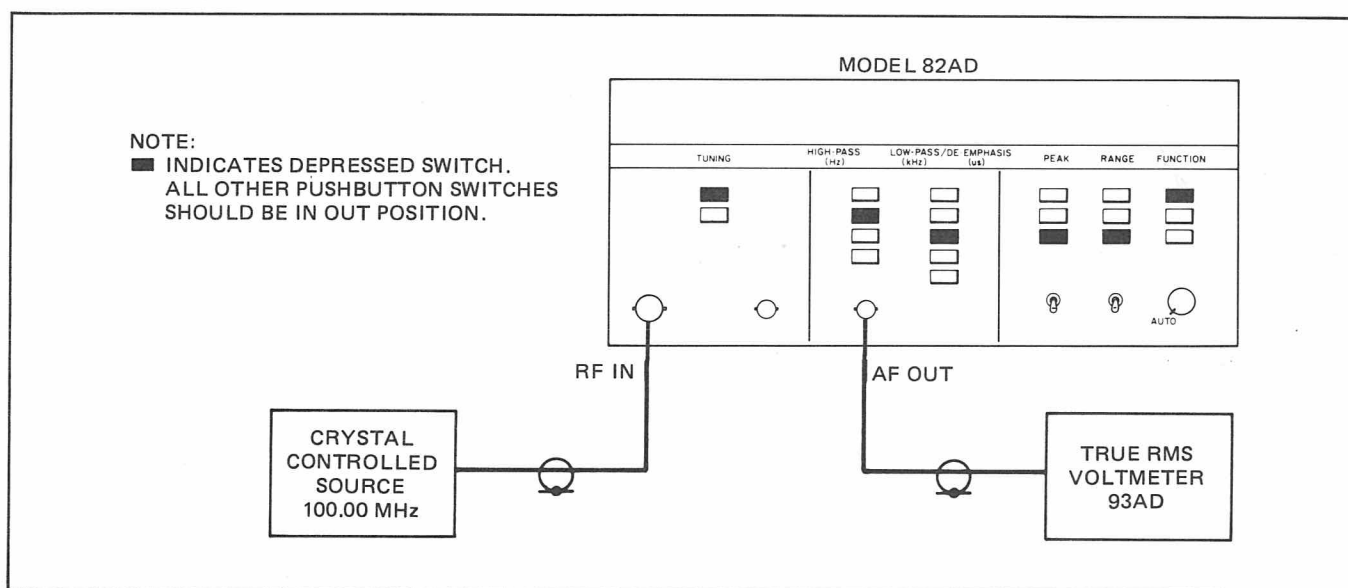

Figure 2-10 Residual FM Check, Test Setup
- a. Connect the Model 82AD and test equipment as shown in Figure 2-10.
- c. Set the Model 82AD LEVEL control to the AUTO position. Depress the Model 82AD switch indicated in Figure 2-10.